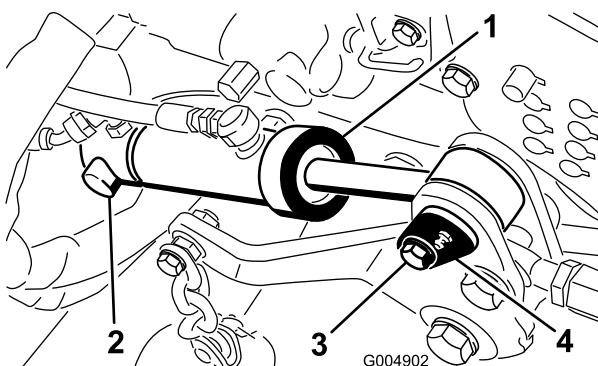
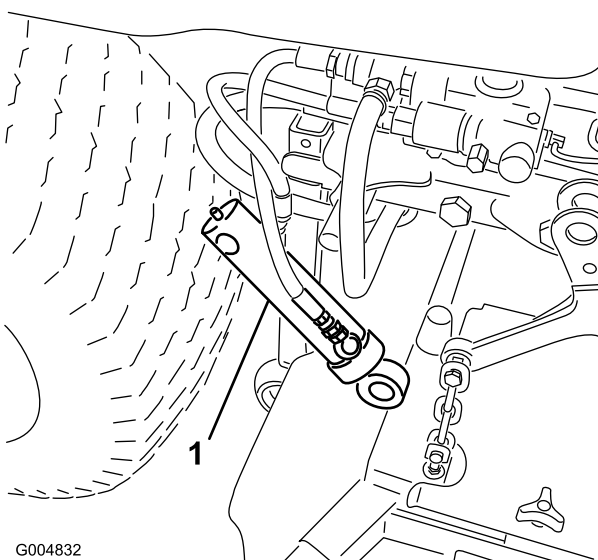

Figure 98
Figure 99
6. Remove the retaining ring securing the rear of the deck lift cylinder to the pivot pin (Figure 98).
7. Remove the screw securing the front cylinder pivot pin to the mower frame (Figure 98). Remove the cable tie securing the pressure and tank hoses.
8. Remove the front pivot pin and slide the cylinder off the rear pin (Figure 98). Let the cylinder hang out of the way on the hoses (Figure 99).